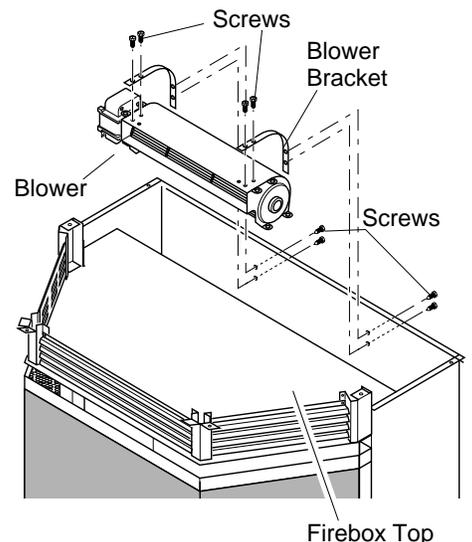

Figure 14 - Removing Blower Brackets from Stove and Attaching to Blower
7. Remove the two blower mounting brackets from the rear panel by removing two screws each (see Figure 14).
8. Attach the two mounting brackets to blower housing using four screws provided in blower kit (2 for each bracket) (see Figure 14). Tighten screws securely. Place blower assembly temporarily on top of firebox.
13. Using the four screws previously removed, mount blower assembly to stove by reattaching blower brackets to rear panel (see Figure 14, page 10). Tighten screws securely.
7. Remove the two blower mounting brackets from the rear panel by removing two screws each (see Figure 14, page 10).
8. Attach the two mounting brackets to blower housing using four screws provided in blower kit (2 for each bracket) (see Figure 14, page 10). Tighten screws securely. Place blower assembly temporarily on top of firebox.
- Using the four screws previously removed, mount blower assembly to stove by reattaching blower brackets to rear panel (see Figure 14, page 10). Tighten screws securely.